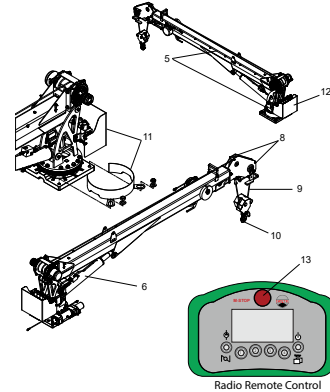

Figure 3
**NOTE:** Items 1, 2 ,3, 4, 7, 14 of the Pre-Operation Inspections are not shown in *Figure 3*.